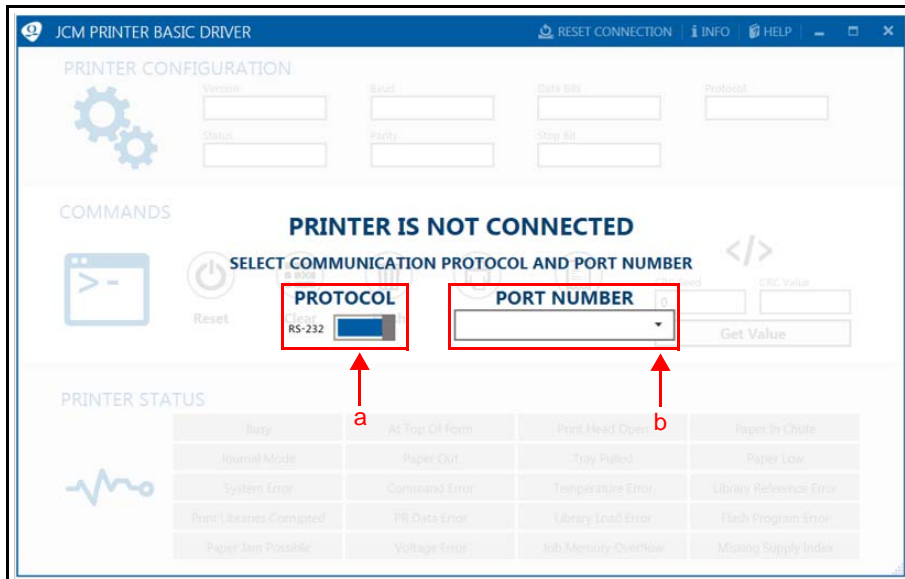

Figure 9 JCM Printer Basic Driver UI (Opening Screen)
5. Click to select the Communication Protocol - either RS-232 or Netplex Communications (Figure 9 a).
6. Click to select the COM Port Number where the GEN2U Printer is connected (Figure 9 b).